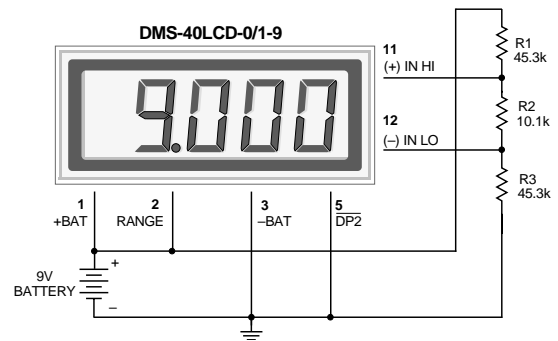

Figure 8. Power Supply Monitor (9V-Powered Models)
- 6. Power Supply Monitoring:** A popular application for DATEL's low-power LCD meters is monitoring the supply voltage in battery-operated portable equipment. Figure 8 demonstrates how a 9V-powered DMS-40LCD can be used to monitor its own supply. The meter used is the DMS-40LCD-0/1-9 configured for its $\pm 2\text{V}$ input range (pin 2 connected to pin 1). A three-resistor voltage divider is used to attenuate the battery voltage and also to satisfy the requirement that the input voltages applied to pins 12 and 11 be at least 1.5 Volts above and below the battery voltage applied to pins 1 (+BATTERY) and 3 (-BATTERY). The divider should be designed so that 1/10th the battery voltage falls across the inputs to the meter.